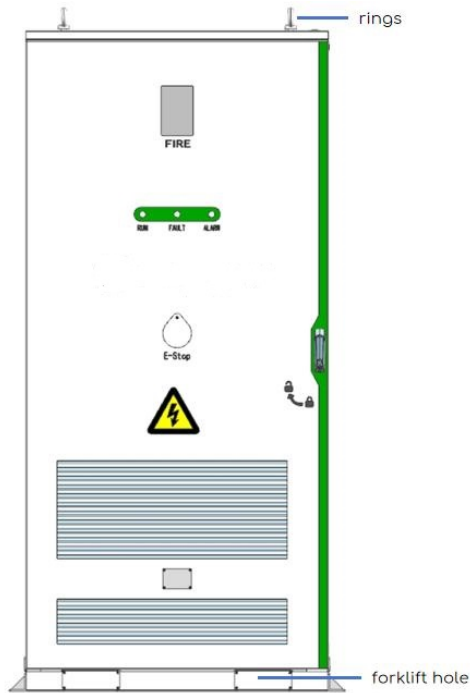

Figure 4-3 Schematic Diagram of Forklift Holes in Integrated Energy Storage Cabinet
2. The forklift's forks must fully penetrate the depth of the integrated cabinet, with a minimum length of 1500mm. See Figure 4-3 below for the forklift hole schematic.